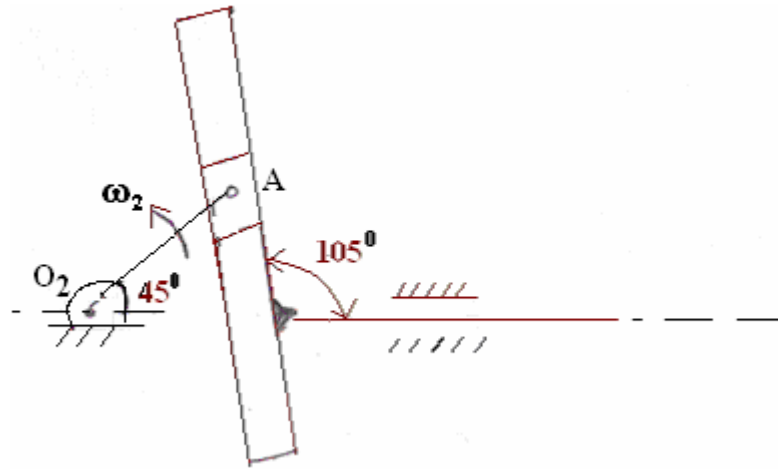

Figure 6
7. The figure 6 show a variation of the Scotch-yoke mechanism. It is driven by crank 2 at $\omega_2 = 36$ rad/s ccw. Find the velocity of the crosshead. Link 4. Use instant centre method. $O_2A = 250$ mm. [16]